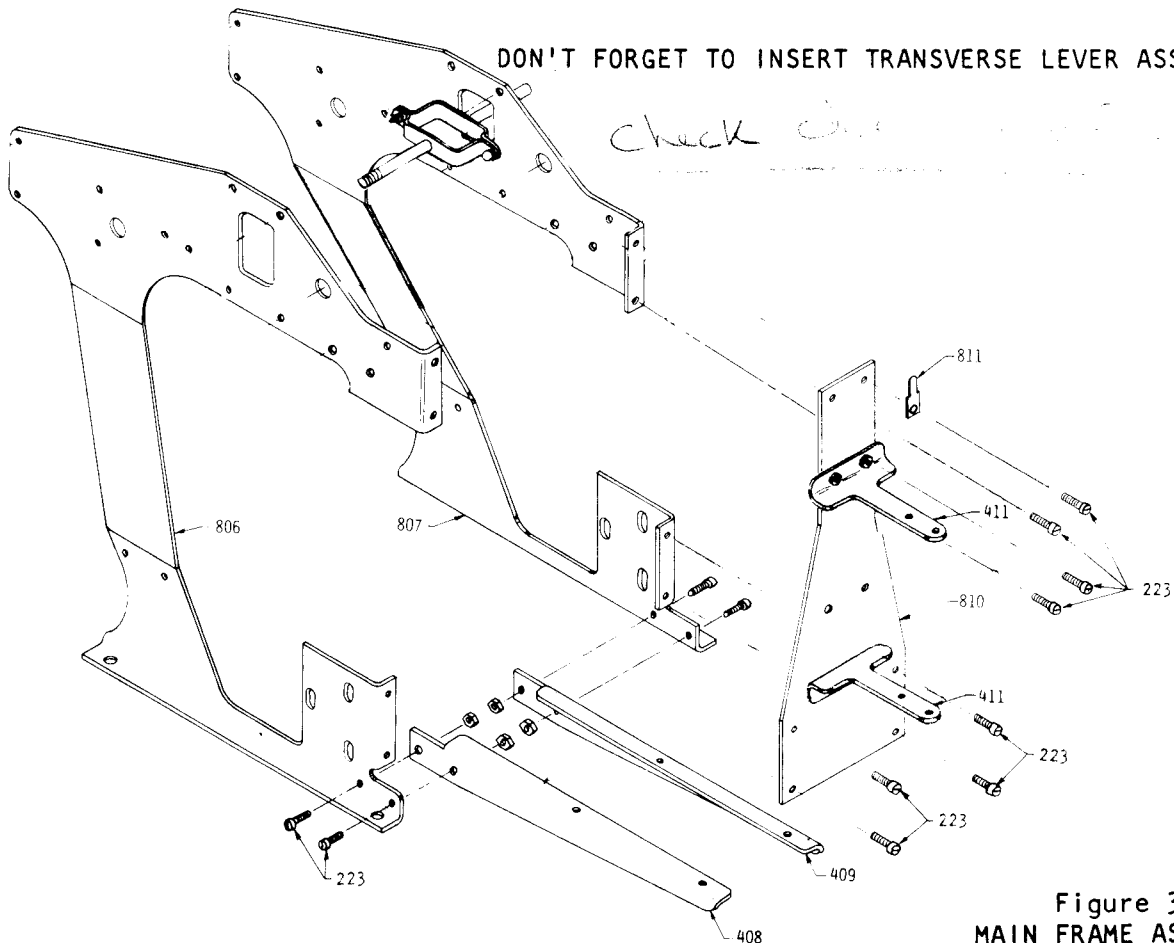

Figure 3
STEP 3 MAIN FRAME ASSEMBLY - see Figure 3
- ✓ A. Fasten Front Stay Right #408 to Right Side Frame #806 using two pan hd. screws #223 and two locking nuts #243. Check that everything is square. Tighten securely. See Figure 3.
- ✓ B. Repeat (A) using Front Stay #409 and Left Side Frame #807.
- C. Fasten Front Frame Plate #810, Canopy Mounting Post #811 and Top Servo Mount Stay #411 to left and right frame assemblies using eight pan hd. screws #223 and eight locking nuts #243. Assemble, but do not fully tighten nuts at this stage. See Figure 3.
- ✓ D. Place Transverse Lever Assembly from STEP 1 between side frames, arms extending through rectangular holes in upper part of side frames. Threaded pitch shaft should be on the right (starboard) side of the helicopter. See Figure 3.
- ✓ F. Fasten Lower Servo Mount Stay #411 to Front Plate #810 as shown in Figure 3.